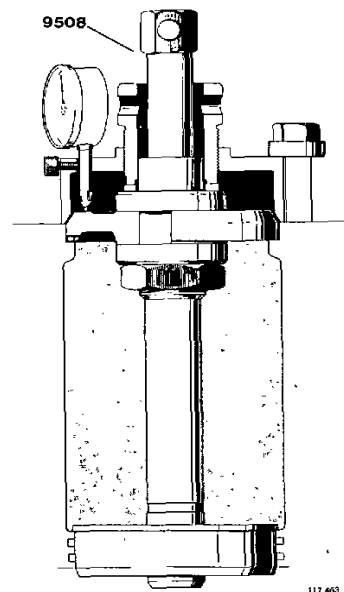

Fig. 68. Reconditioning the liner recess, 70 series
4. Lubricate the O-rings for the lower cylinder liner guide with soap and fit them in the block. Place the guide for the milling tool 9553 (60 series) or 9508 (70 series) in the liner seat, fig. 68. Ensure that the collar of the guide clears the intermediate wall in the block.
6. Attach a dial indicator as shown in fig. 68 and screw down the feed sleeve so that it presses lightly on the milling cutter.